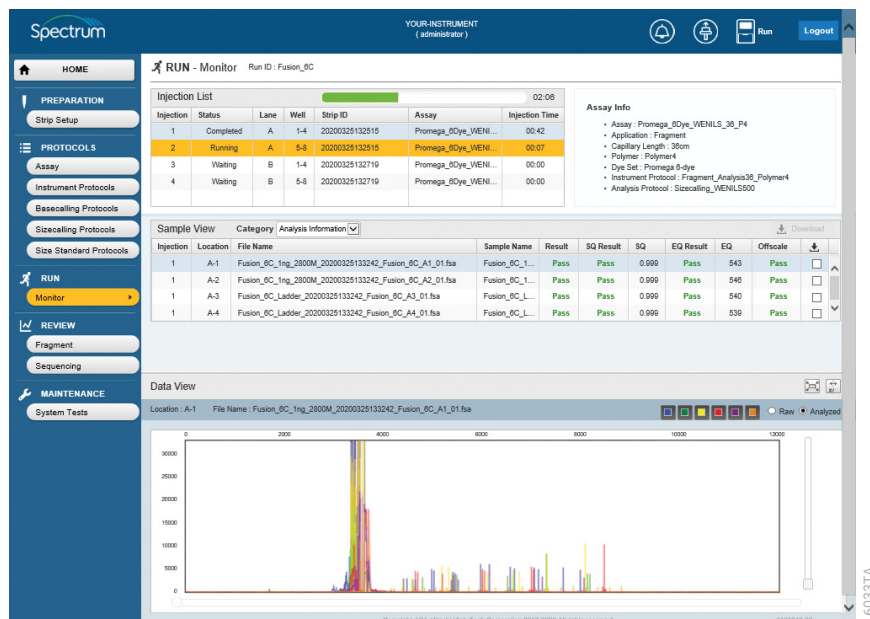

Figure 85. Electropherogram in Data View section of 'RUN-Monitor' screen.
1. Select a completed injection from the current in-process run from the Injection List (Figure 85).
2. A list of samples in that injection is displayed in the Sample View section of the 'RUN-Monitor' screen. Select a specific sample in the Sample View to display the electropherogram for that sample in the Data View section of the 'RUN-Monitor' screen (Figure 85).